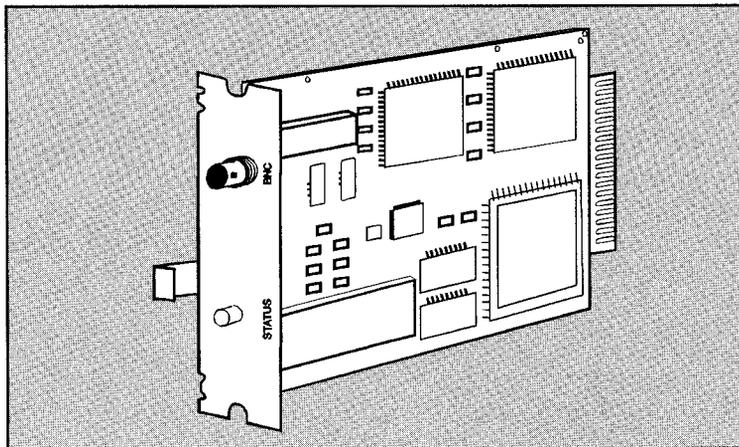

Figure 3-1. Identifying the ThinLAN Adapter Card
1. Locate the adapter card (see Figure 3-1). The part number for the ThinLAN adapter card is C2071A.